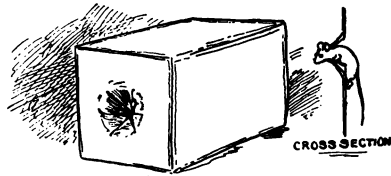

FIG. 20.—The Tin Box-Trap.
**The Tin Can-Trap.**—Make a door of a square or rectangular piece of tin. With a nail make two holes in the top of the door for the wire hinges (Fig. 14). With a heavy knife cut a doorway a trifle smaller than the door. Cut three slashes as shown in Fig. 15. Bend the two sides in as shown in Fig. 16, then hang the door with the wire hinges. Fig. 17 shows the door from the inside of the tin box, and Fig. 18 shows the same from the outside. The door, as may be readily seen, can be pushed up from the outside to admit the game, but when the prisoners attempt to get out they cannot push the door open, for the trap opens but one way. Do not leave space enough below the side-pieces for the animal to thrust his nose or paws under, or it may lift the door in this way and escape. If, as in the diagrams, it is necessary to cut a little above the bottom of the box, put a flat stone, or some similar object, inside for the side-pieces and the door to rest upon. Fig. 19 shows the manner of cutting the tin. Another door can be made by cutting a star in the tin, and then bending the pointed pieces in far enough to allow the game to squeeze through. The points will not allow anything to crawl out, however, and it must remain there until released (Fig. 20). These diagrams are given so that the young hunters may make their own traps, in case the ordinary mice and rat-traps to be found in shops are inaccessible.